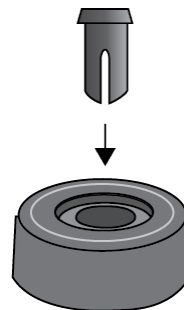

Figure 18. Inserting the Rivet Housing into the Bumper Foot
2. Insert a rivet housing into a bumper foot. Refer to Figure 18.